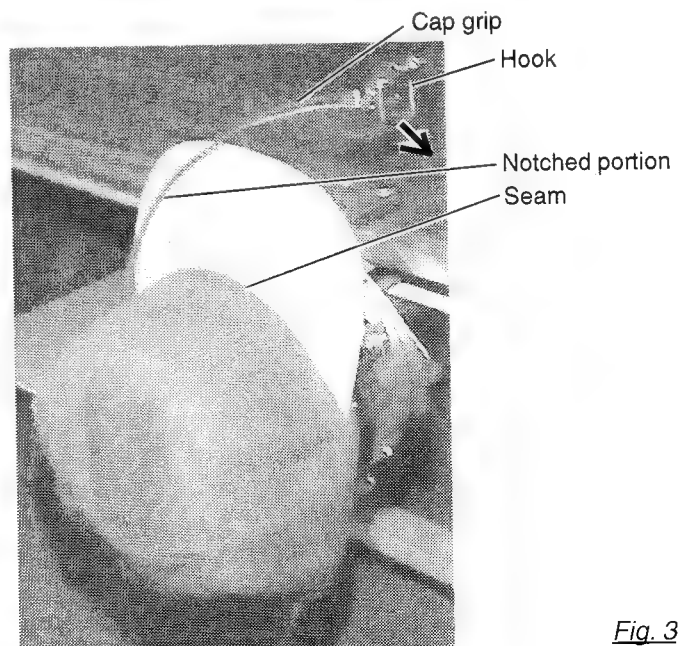

Fig. 3
5. As shown in Fig. 3, place hook so as to have visor of cap get in gap between cap grips. At this moment, set center of cap to center mark on cap hold frame so that notched portion of clamp gets into seam of visor. Close hook.